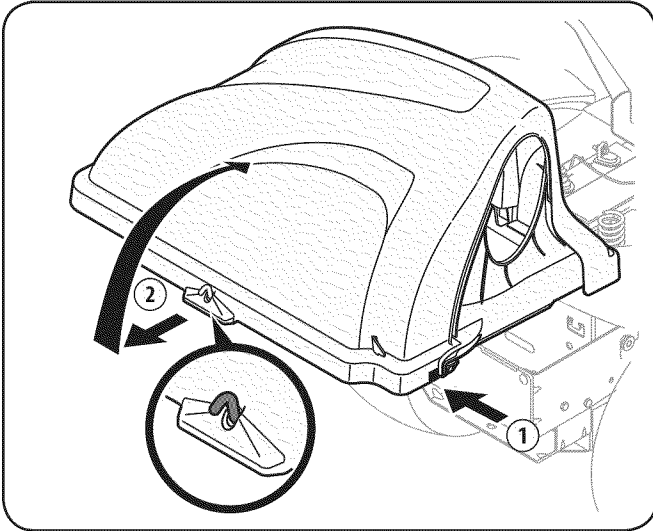

Figure 28
1. Open the grass catcher hood by pushing in on the rear, right-side tab with your right hand, as seen in 1 of Figure 28, and lifting the cover with your left hand in the center rear of the bagger cover, 2.